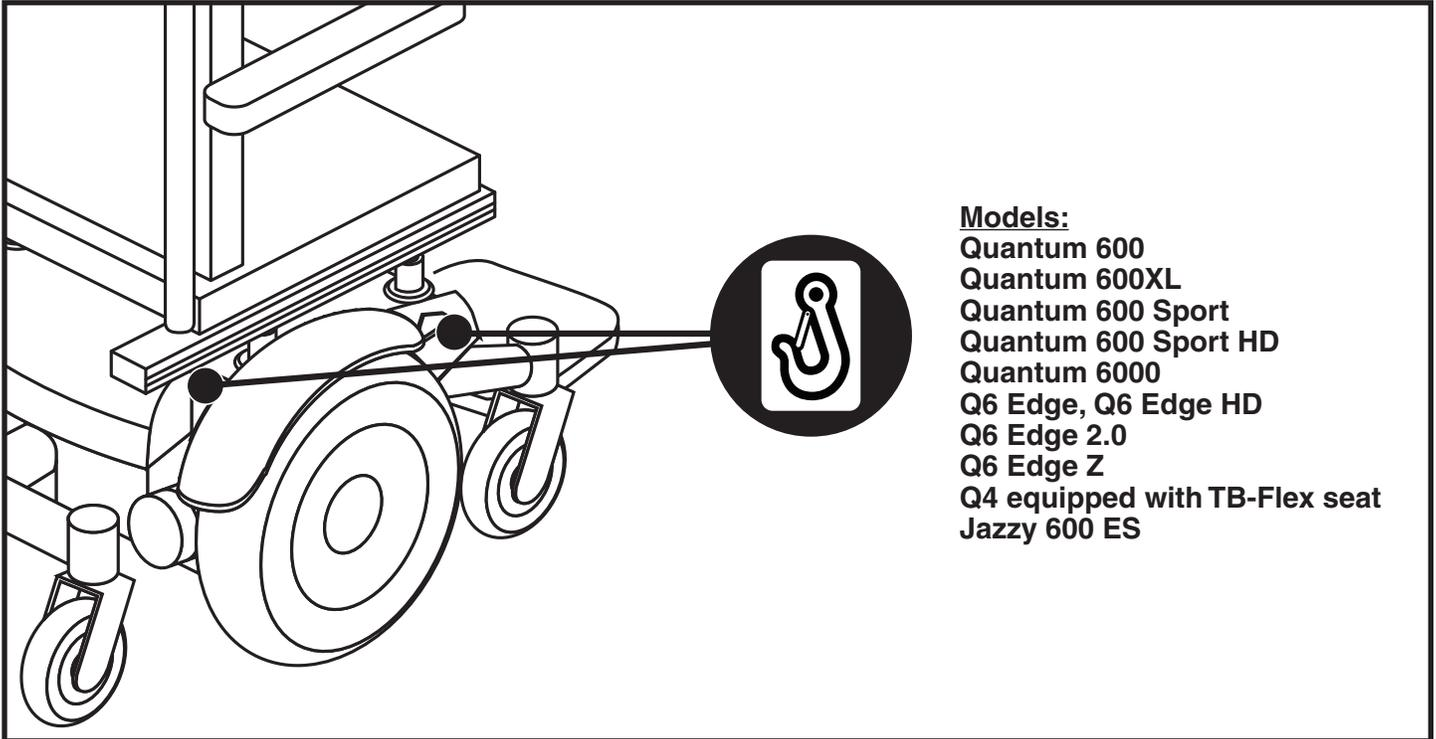

Figure 3. 4-Point Securement Points on a Mid-wheel Drive Power Chair (Right Side Shown)
- Attach the four, six, or eight tie-down straps only to designated, labeled transit securement points indicated by anchor symbols on the power chair. See figures 3 through 12. Tighten the straps to sufficiently remove all slack.
- The Pride Transit Securement Package includes WTORS belt restraint anchor points in conformance with ISO 7176-19. See figures 3 through 11 for the location of the anchor points on each model.